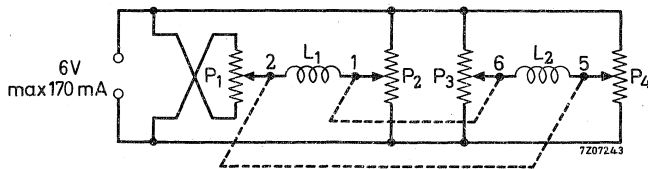

Fig. 1
- b. With the tube fully scanned in the vertical direction, the image has to be shifted so that the graticule is fully covered. With the circuit according to Fig. 1 this is done by means of the ganged potentiometers P1 and P4.